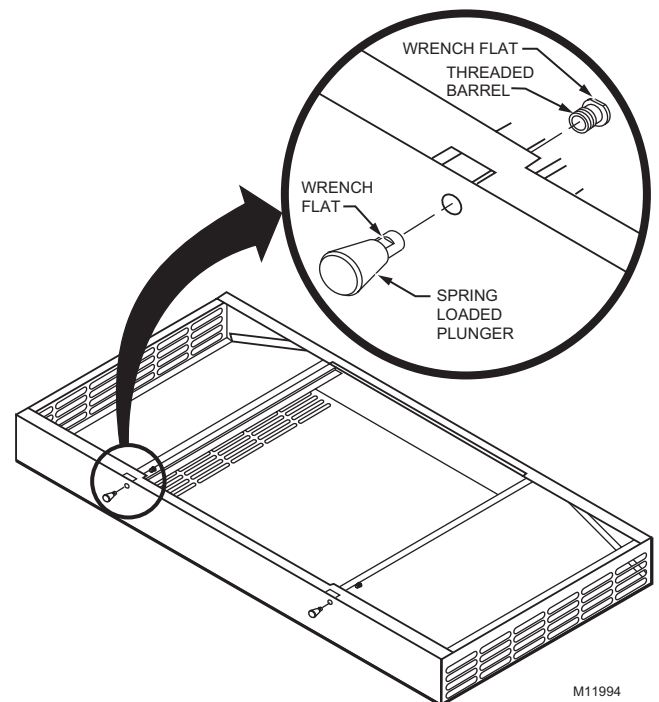

Fig. 6. Lid assembly.
- Pull the plunger back and twist a quarter turn to reveal the wrench flat on the body of the spring loaded plunger (see Fig 6.)